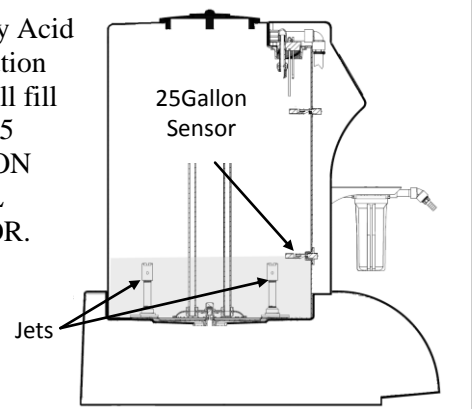

Figure 2
3. Once the 25 Gallon Sensor is reached (Figure 2), the Control Panel will advance to the first RECIRCULATE Mode. With your safety glasses on, lift the Small Access Port Lid and check for correct Spray Ball operation. See section 5.5 for the illustration of correct and incorrect Spray Ball operation.